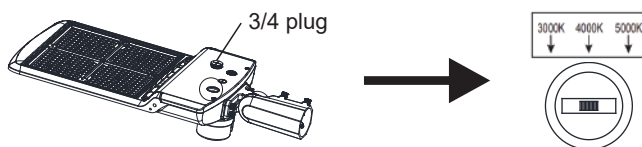

Figure 27
1. Unscrew the 3/4 plug, as shown in the figure 27;